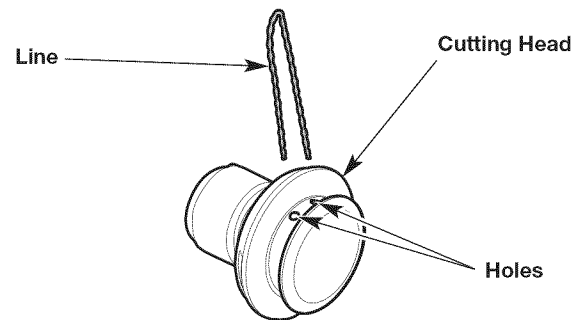
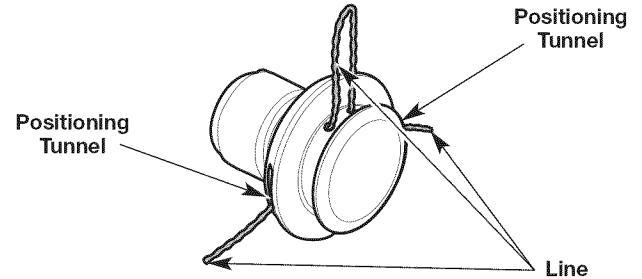

Fig. 15
Fig. 16
3. Insert the ends of the new trimming line into the holes in the cutting head (Fig. 15). Push the line through the holes until both ends protrude from the positioning tunnels (Fig. 16).